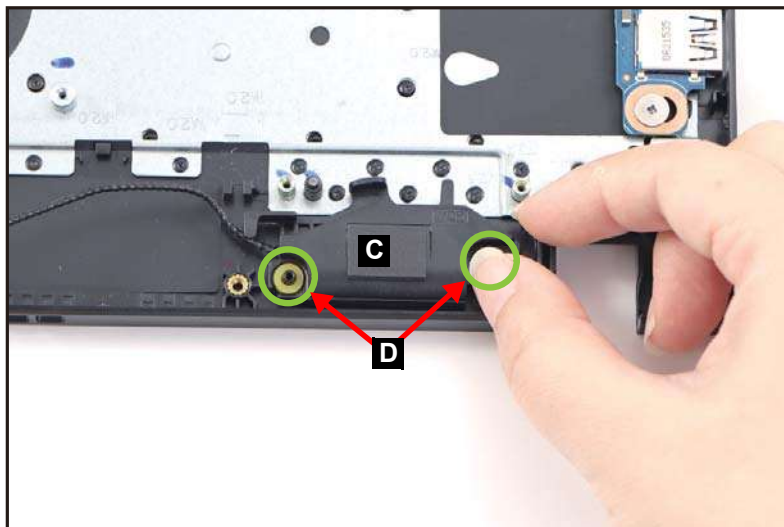

Figure 3-49. Speaker Module Removal
2. Release the right speaker (C) from the guide pins (D) (Figure 3-49). Then remove the speakers from the top assembly.